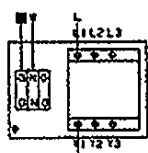

FIG. W1
2. Use conductors with insulation rated 90°C or higher having sufficient ampacity in accordance with the 60°C column of Table 310-15 (B)(16) of the National Electrical Code® or Table 2 of the Canadian Electrical Code.
5. Select the correct wiring diagram shown on page 4 and wire the switch as shown (Figs. W1-W5).